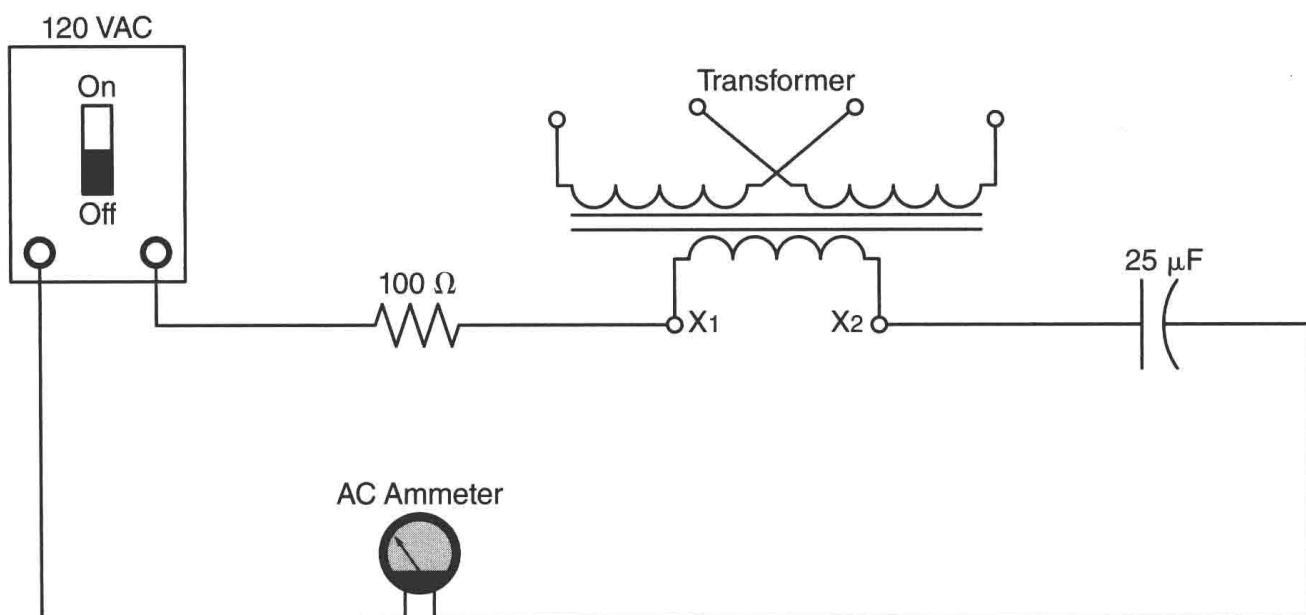

Figure 16-5 Connecting an RLC series circuit.
1. Connect the circuit shown in Figure 16-5.